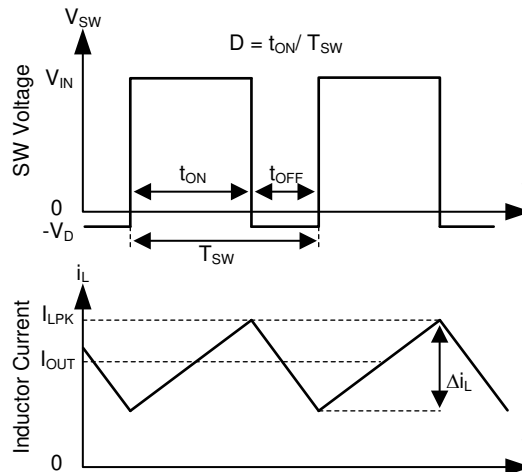

图 10-2. SW Node and Inductor Current Waveforms in Continuous Conduction Mode (CCM)
The following operating description of the TPS2585x-Q1 refers to the Functional Block Diagram. The TPS2585x-Q1 integrates a monolithic, synchronous, rectified, step-down, switch-mode converter with internal power MOSFETs and USB current-limit switches with charging ports auto-detection. The TPS2585x-Q1 offers a compact solution that achieves up to 6.6 A of continuous output current with excellent load and line regulation over a wide input supply range. The TPS2585x-Q1 supplies a regulated output voltage by turning on the high-side (HS) and low-side (LS) NMOS switches with controlled duty cycle. During high-side switch ON time, the SW pin voltage swings up to approximately V_{IN} . The inductor current i_L increases with linear slope $(V_{IN} - V_{OUT}) / L$. When the HS switch is turned off by the control logic, the LS switch is turned on after an anti-shoot-through dead time. Inductor current discharges through the LS switch with a slope of $-V_{OUT} / L$. The control parameter of a buck converter is defined as Duty Cycle $D = t_{ON} / T_{SW}$, where t_{ON} is the high-side switch ON time and T_{SW} is the switching period, shown in Figure 10-2. The regulator control loop maintains a constant output voltage by adjusting the duty cycle D . In an ideal buck converter, where losses are ignored, D is proportional to the output voltage and inversely proportional to the input voltage: $D = V_{OUT} / V_{IN}$.